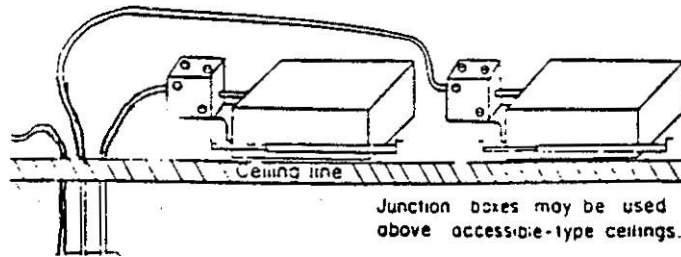

Figure 1: Branch-circuit conductors terminating at each fixture (no feedthrough)
- These are classified as pre-wired fixtures and therefore do not need the flex and junctions' box (as shown in Figures 1 and 2).